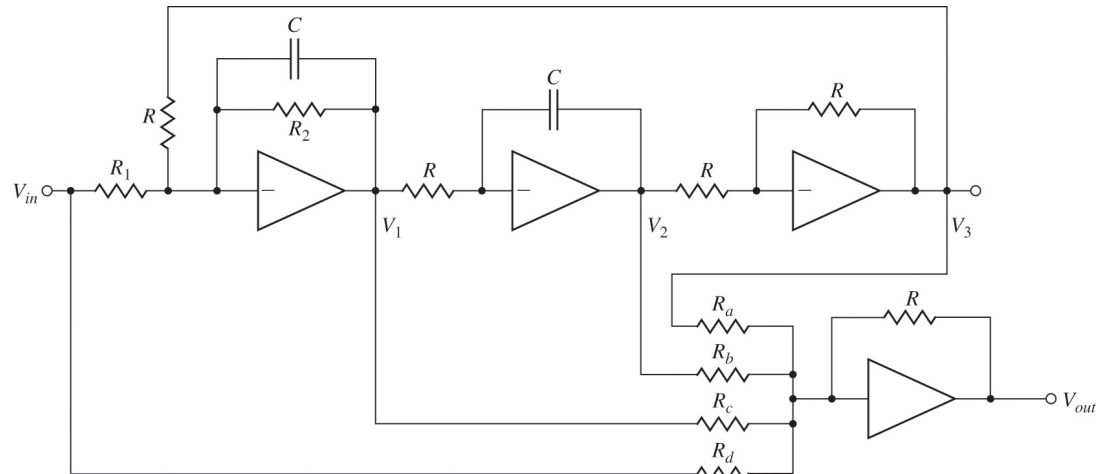

Fig. 2.55 Op-amp biquad
18. The very flexible circuit shown in Fig. 2.55 is called a biquad because its transfer function can be made to be the ratio of two second-order or quadratic polynomials. By selecting different values for R_a , R_b , R_c , and R_d the circuit can realise a low-pass, band-pass, high-pass, or band-reject (notch) filter.
- (b) Using the MATLAB comand `step` compute and plot on the same graph the step responses for the biquad of Fig. 2.55 for $A = 2$, $\omega_n = 2$, and $\zeta = 0.1, 0.5$, and 1.0 .
19. Find the equations and transfer function for the biquad circuit of Fig. 2.55 if $R_a = R$, $R_d = R_1$ and $R_b = R_c = \infty$.